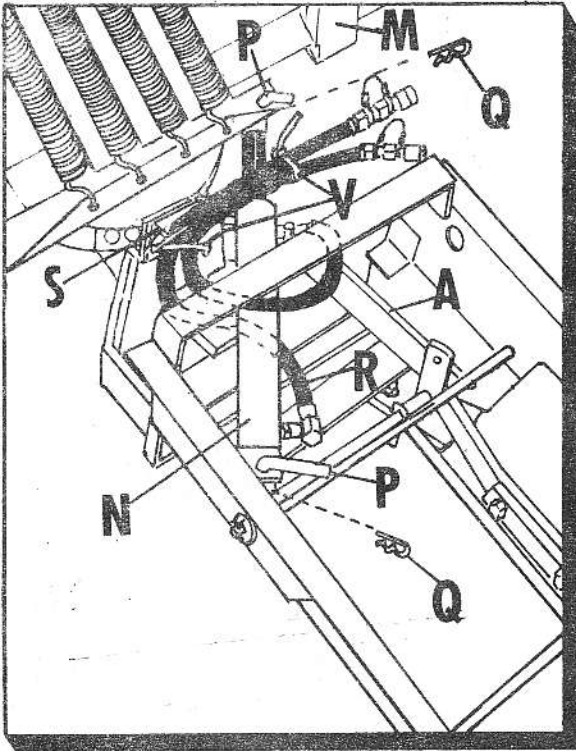

Fig. 22
2. Assy. hydraulic cylinder (N) to dozer blade (M) with two pins (P) and two hair pins (Q). (See Fig.22)
3. Assy. hydraulic hoses to cylinder (N), long hose (R) to rear of cylinder, short hose (T) to front of cylinder.
4. Run hoses under hydraulic cylinder and tie to pin hsg. (S) with two plastic ties (V).
5. Tie hoses together at top with plastic ties keeping all excess hose in "A" frame assembly (A).